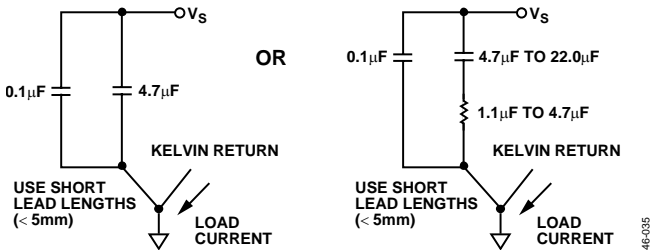

Figure 35. Recommended Power Supply Bypassing
**See Figure 35
**Use Power Supply Bypassing Shown in Figure 35
Taking full advantage of the very wide bandwidth and dynamic range capabilities of the AD797 requires some precautions. First, multiple bypassing is recommended in any precision application. A 1.0 μF to 4.7 μF tantalum in parallel with 0.1 μF ceramic bypass capacitors are sufficient in most applications. When driving heavy loads a larger demand is placed on the supply bypassing. In this case, selective use of larger values of tantalum capacitors and damping of their lead inductance with small value (1.1 Ω to 4.7 Ω) carbon resistors can be an improvement. Figure 35 summarizes bypassing recommendations. The symbol (**) is used throughout this data sheet to represent the parallel combination of a 0.1 μF and a 4.7 μF capacitor.